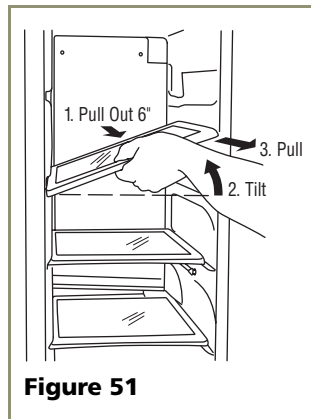

Figure 51
1. See **Figure 51**. Pull shelf out about 6" to clear the wall's molded protrusion.